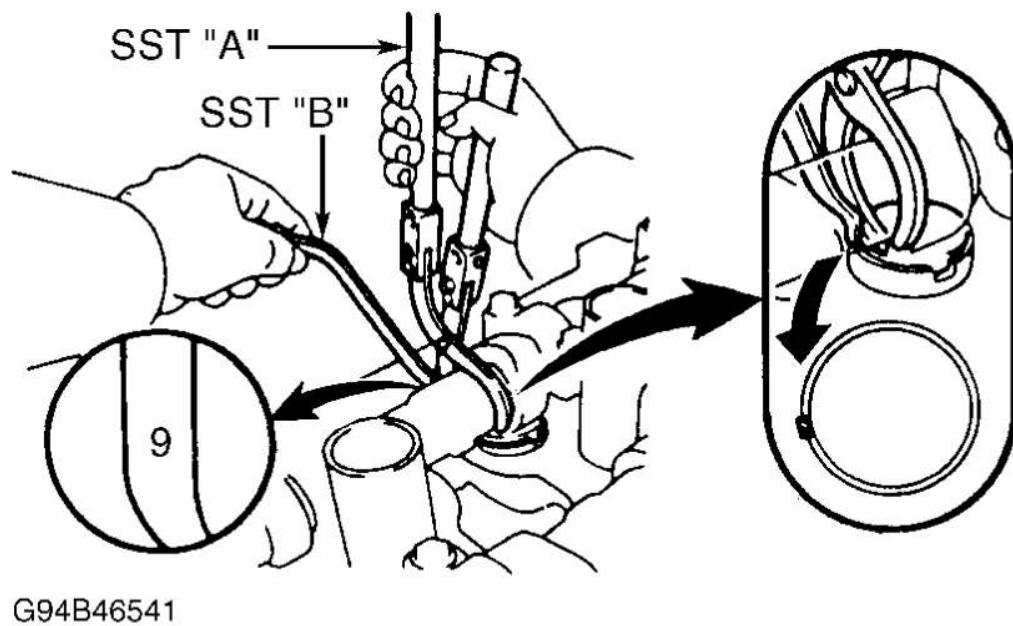

Fig. 30: Removing & Installing Valve Clearance Adjusting Shim (Tacoma)
(1) Adjust valve clearance with engine cold. Verify valve clearance listed with valve clearance listed on underhood label (if available). If valve clearance on underhood label differs from valve clearance listed, use specification on underhood label.
9. Valve Clearance Adjuster (SST 09248-55040) is used to remove adjusting shim. Using SST "A" of valve clearance adjuster, press valve lifter downward. See **Fig. 30** . Install SST "B" between camshaft and valve lifter with side marked with No. 9 at designated position. See **Fig. 30** . Remove SST "A".